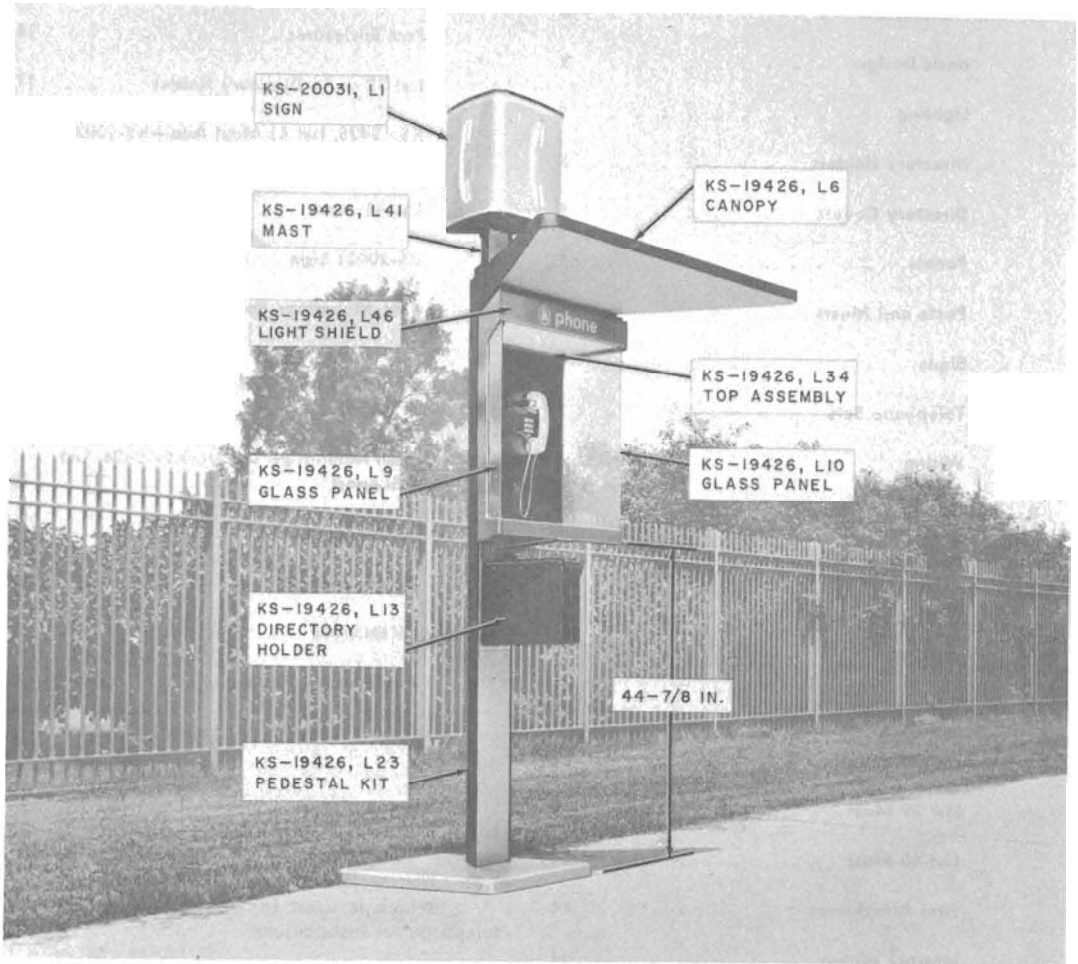
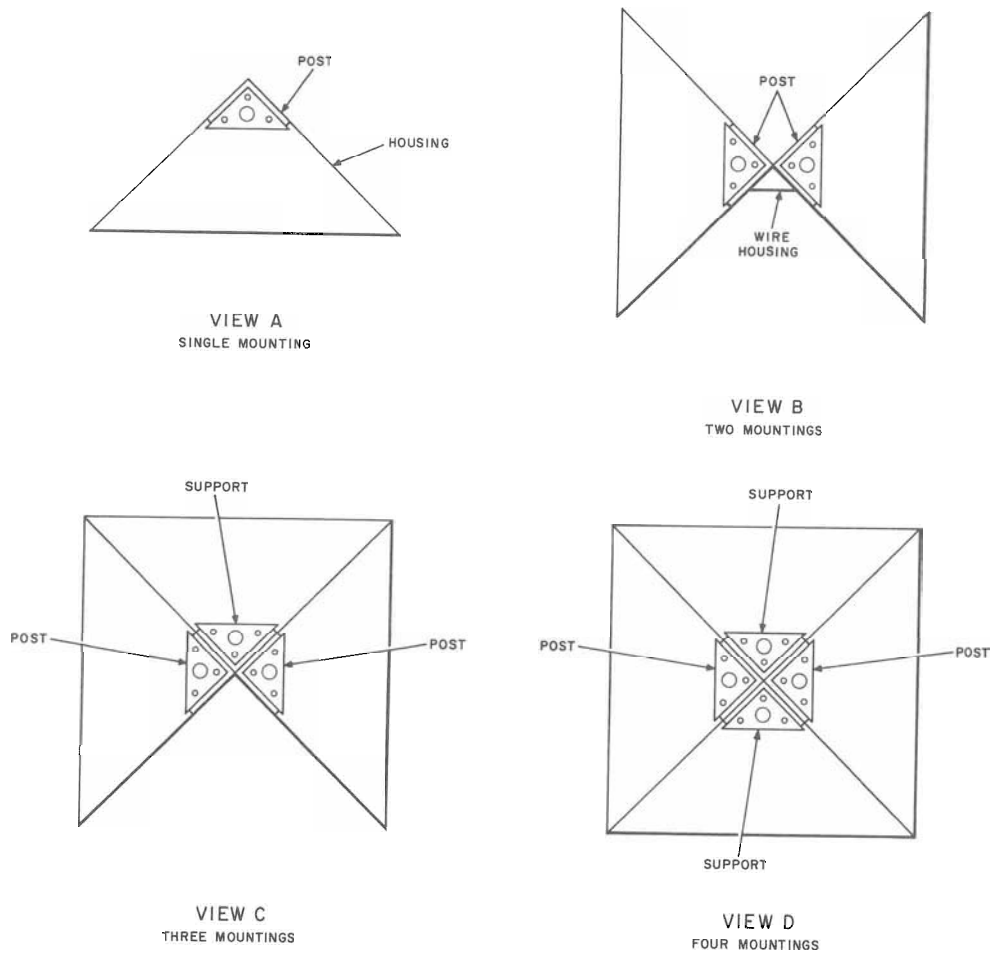

Fig. 1—KS-19426 Mounting for Walk-Up Outdoor Service with List 41 Mast and KS-20031 Illuminated Sign
Fig. 6—Various Arrangements for Post Mountings
**2.02** The KS-19426 mounting consists of a 90-degree wedge-shaped housing for post- or wall-mounting of coin telephone sets (Fig. 1 through 5).
**2.03** Post mountings (Fig. 1 through 3) may be installed singly or in multiple combinations as shown in Fig. 6.
**2.05** A wedge-shaped KS-19426, List 6 canopy (Fig. 1) is available for installation above a single housing to protect the user from the weather. Canopies also may be used in multiple arrangements.
(a) List 13 directory holder (Fig. 1) for outdoor use, walk-up installations.